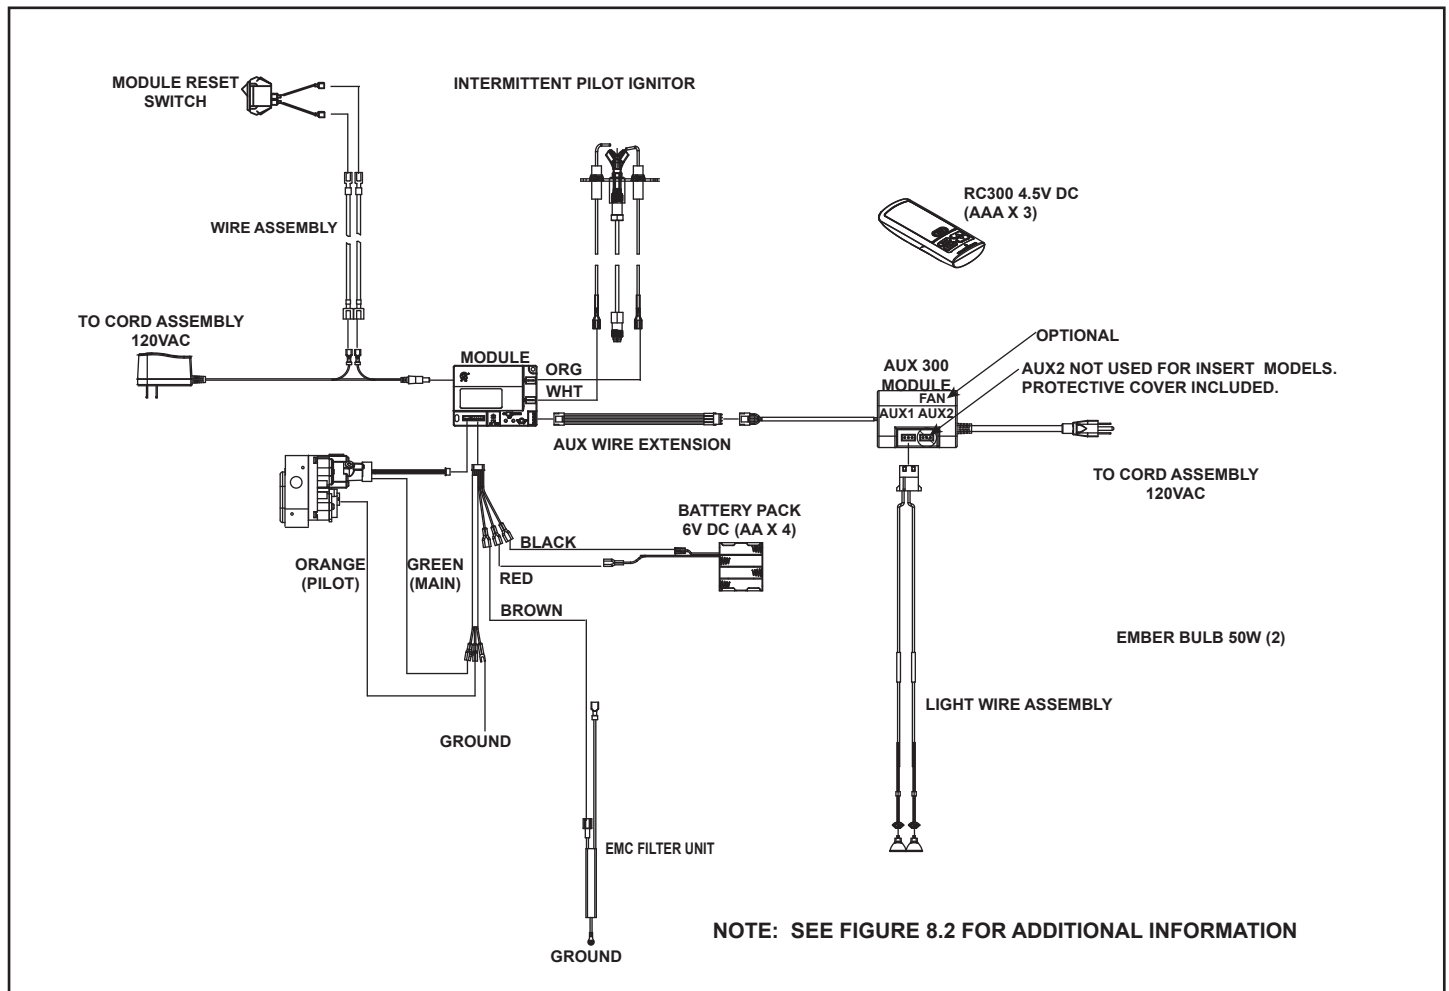

Figure 8.1 IntelliFire™ Plus Pilot Ignition (IPI) Wiring Diagram
- Refer to Figure 8.1, IPI Plus Wiring Diagram.
**NOTE: SEE FIGURE 8.1 FOR ADDITIONAL INFORMATION**